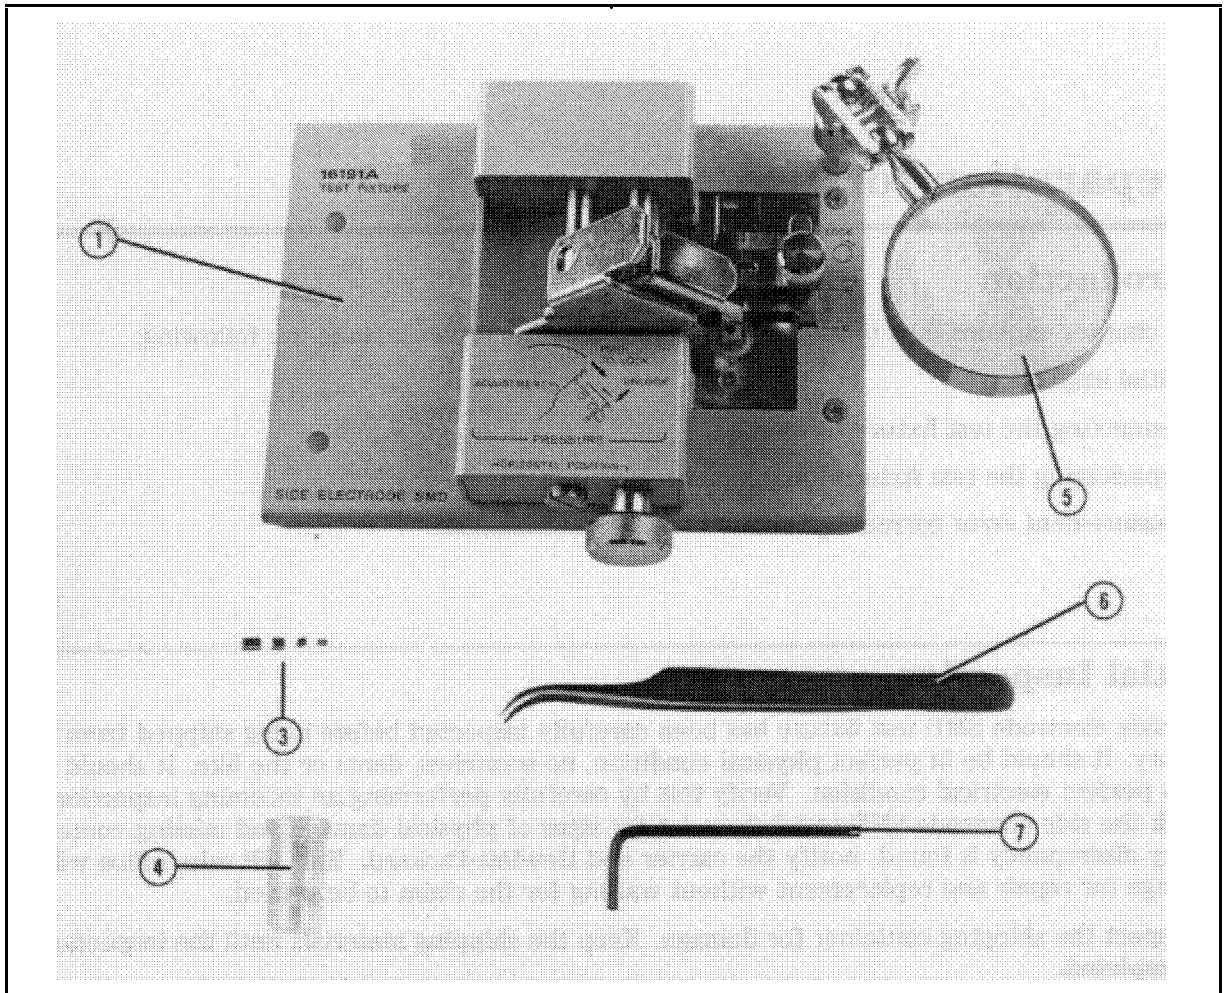

Figure 2-1. 16191A Product Overview
- Verify that the shipping container contains everything shown in Figure 2-1 and listed in Table 2-1.
1 Operation and Service Manual is not shown in Figure 2-1.
3 The magnifying lens is packed separately from the 16191A body. Connect it as shown in Figure 2-1.